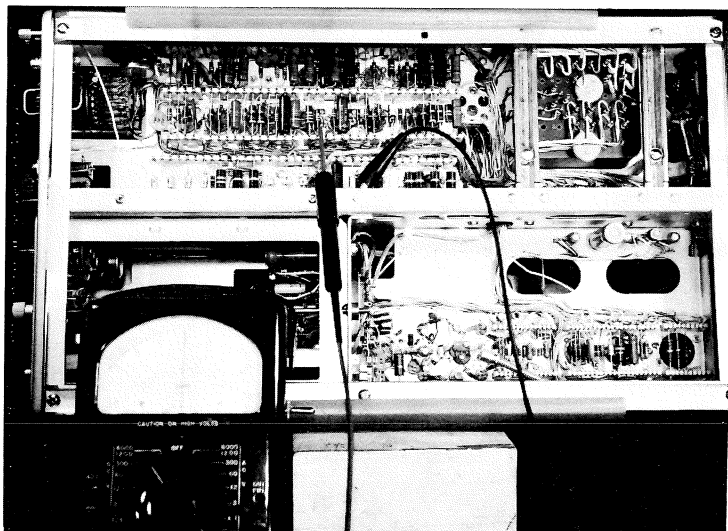

Figure 3
1. Adjust the -150 Adj. (R616-see Figure 2) for -150 volts as measured with a voltmeter. (see Figure 3)